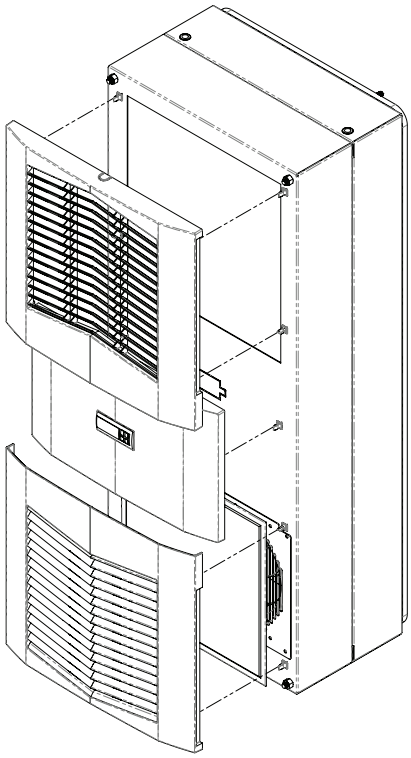

Figure 3
1. Carefully remove the louvered grille, and where applicable, remove the center panel from the enclosure by pulling forwards. See Figure 3 on page 12.